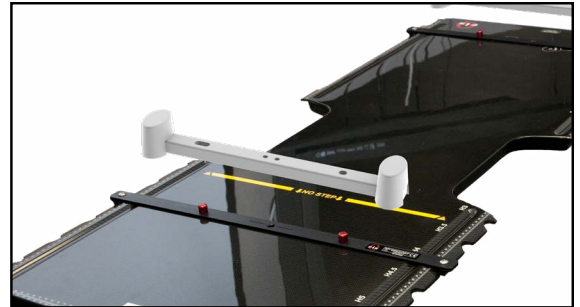

Fig. 3
1. Attach one Locating Bar for every indexer being used onto the kVue or kVue Insert surface. To attach, place either end of the Locating Bar in the appropriate Varian Exact® compatible index notches and snap in place (Fig. 3).